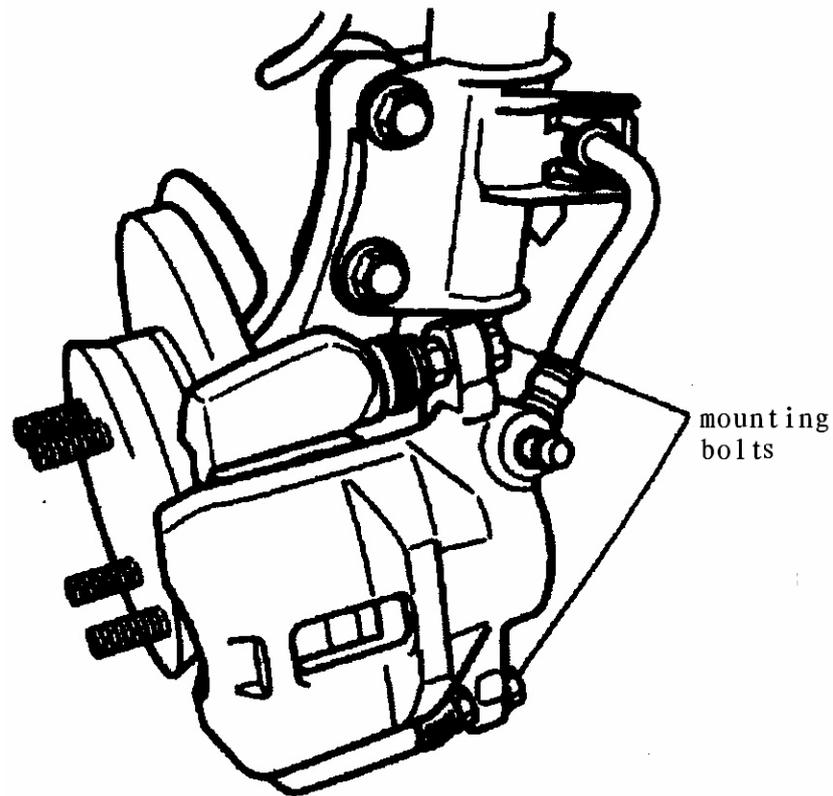

FIG.16-13
- (3) Remove caliper mounting bolts.(FIG.16-13)
- (1) Remove caliper mounting bolts (FIG.16-13)